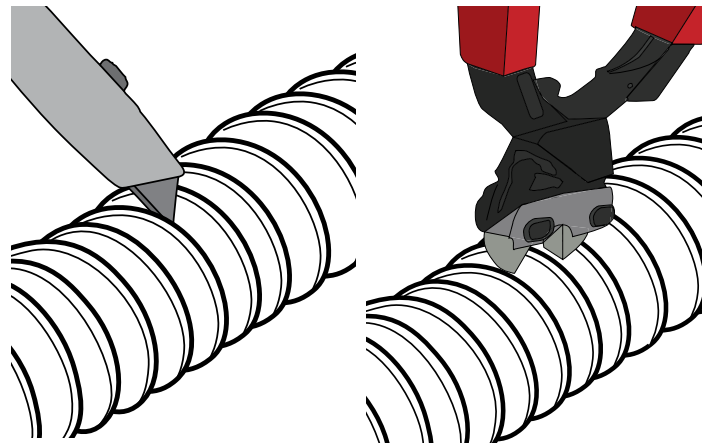

FIG. 31b
- Cut the Flex Hose to size using a razor knife and diagonal cutters to cut through the clear lining and reinforcing wire [FIG 31b].